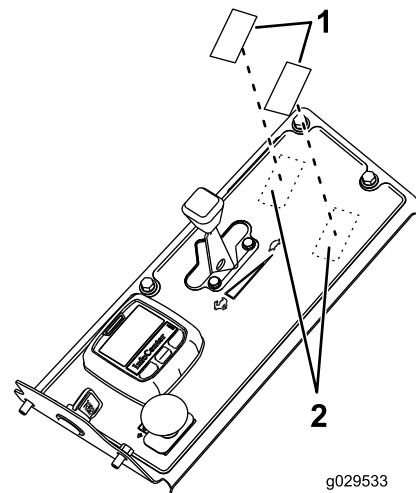

Figure 23
- Locate and remove the 2 knockout plugs from the top of the control panel (Figure 23).